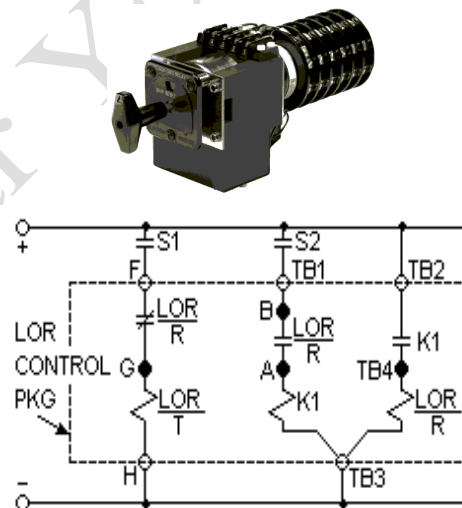

Fig. 27 Electric-reset LOR/ER Control Circuit (shown in the RESET position).
The LOR/ER schematic is shown on Fig.27. The LOR/R coil form represents the rotary solenoid that is used to reset the LOR/ER electrically. K1 is a relay used to control the rotary solenoid. This enables S2 to be a low level contact. It controls only the K1 relay coil. The K1 contact operates the high current rotary solenoid. TB1, TB2, TB3 are terminal block contacts, and F and H are LOR tie points-- all are for connection to the control bus. G, B, and TB4 are internal tie points shown for information. When the LOR/ER tripped, the Normally Closed (NC) LOR contact in the LOR/T circuit opens removing LOR/T solenoid from the circuit. When this happens, the Normally Opened (NO) contacts of LOR in the K1 relay circuit closes enabling this circuit to be used. To command the LOR/ER to reset, S2 is closed. This completes the circuit to the K1 relay and it operates closing contact K1. This completes the circuit to the LOR/R rotary solenoid and it indexes to the RESET position. When this happens, the NO LOR contact opens. This opens the circuit on the K1 relay coil. K1 relay drops out opening contact K1 that opens the rotary solenoid LOR/R circuit. At the same time the NC LOR contact, in the linear solenoid LOR/T circuit, closes, setting up the LOR/ER for the next TRIP command. S1 and S2 should be momentary contacts and should not stay closed. If both contacts are closed at the same time, a "pumping" action will result with the LOR/ER indexing back and forth between the RESET and TRIP positions.